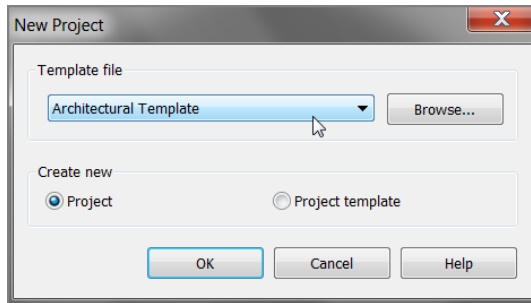

FIGURE 1.3: The New Project dialog allows you to start a new project using a preexisting template file, or you can create a new template file.
4. The New Project dialog shown in Figure 1.3 opens. Click the Template File drop-down menu, and select Architectural Template. If you're a metric user, click the Browse button. This will open Windows Explorer. Go up one level, and choose the US Metric folder. Select the file called DefaultMetric.rte. If you cannot find this file, please go to the book's accompanying website (www.sybex.com/go/revit2015ner) and download all files pertaining to the entire book—especially the files for Chapter 1.